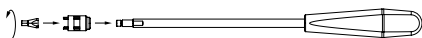

Fig. 9
- Screw together the set screw and the starter so that they are hand-tight, see Fig. 9.